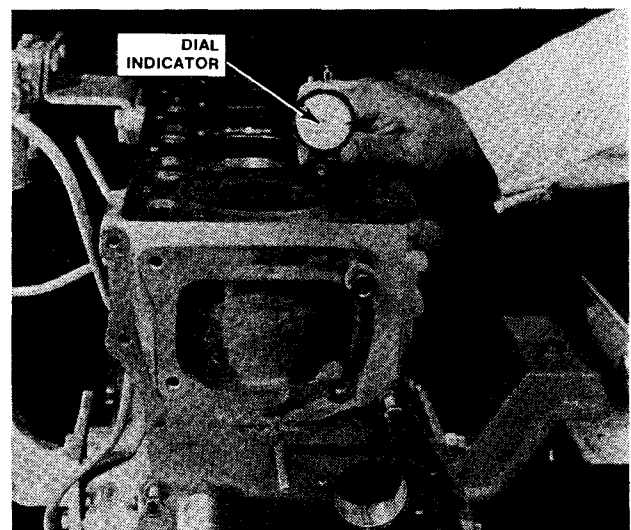

FIG. 41 Checking Piston Protrusion
15. Rotate the engine in its workstand so that it is upright. Install a dial indicator to the top of the block and check protrusion of each piston when in the top dead center position (Fig. 41). Piston protrusion should be within specification.